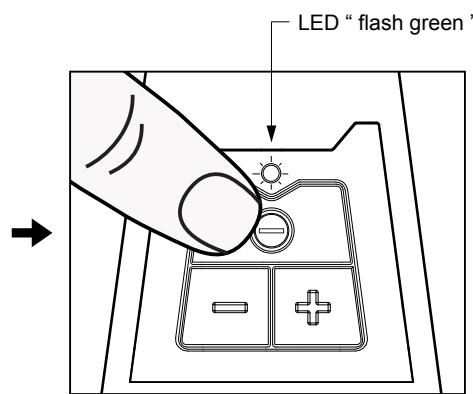

figure 2
2. Press the power on/off button " ⏻ " on the button plate to switch on the sander. The LED indicator shows "flash green" color after sander being switched on. - see figure 2.